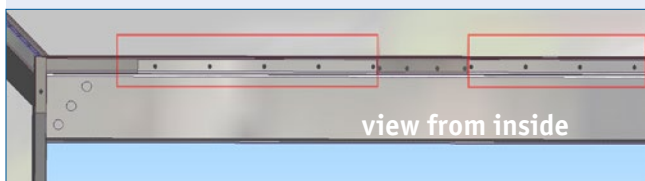

Fig. 2.1.2
- Now rivet the lintel to the upper roof end through the existing holes (Fig. 2.1.2). Take the rivets MD150041 for this purpose.